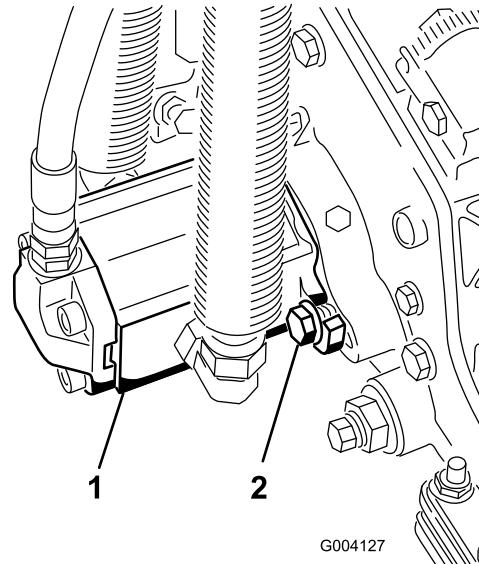

Figure 14
- 16. Install the motor by rotating it clockwise so that the motor flanges clear the bolts (Figure 14).